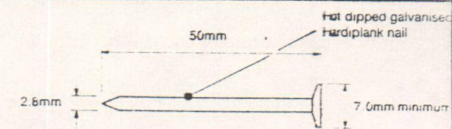

Fig. 18 Hardiplank nail
- For fire rated applications, sheets can be fixed directly to gypsum plaster boards. Building paper must be placed directly over the gypsum board before fixing the Hardiflex sheets. Care must be taken with this method to ensure the gypsum board is kept dry during the construction period before final coating of the Hardiflex. Longer 50mm Hardiflex nails may be required to give a minimum of 25mm penetration into the timber framing. (Refer Fig. 18).